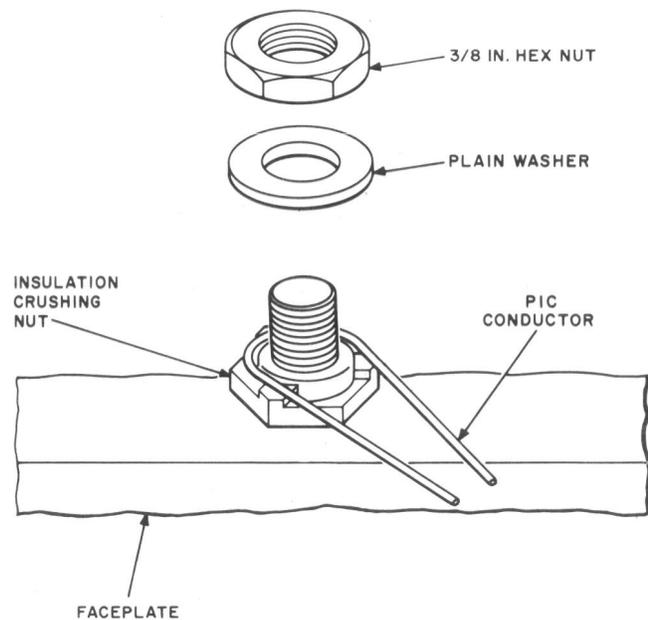

Fig. 10—Installing PIC Conductor on Binding Post
5.05 Terminate the pair on the binding post as follows (Fig. 10):